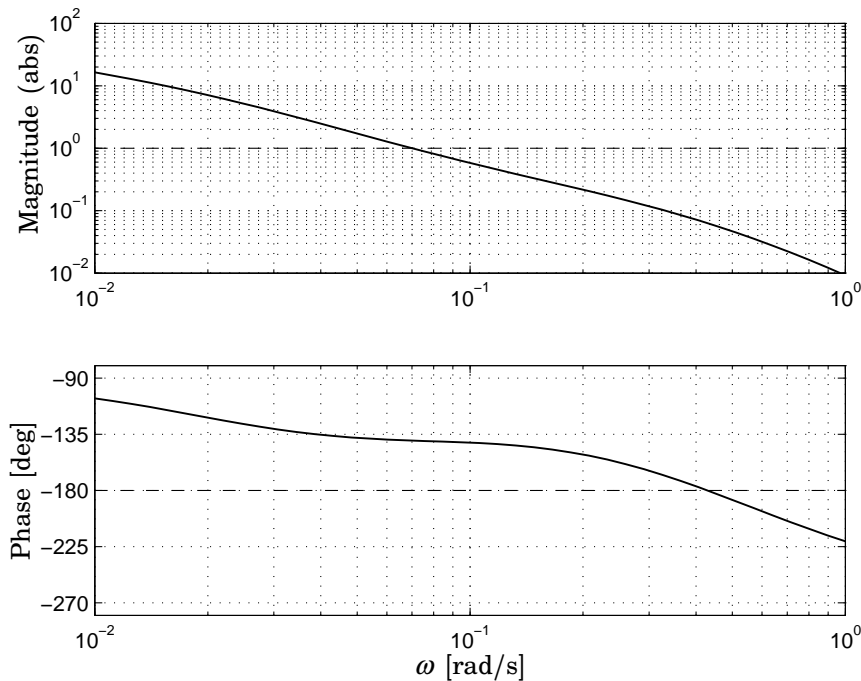

Figure 2 The loop transfer function Bode plot from Problem 3.
3. The Bode plot of a loop transfer function is shown in Figure 2. Determine the cross-over frequency ω_c , the -180° phase shift frequency ω_0 as well as the amplitude margin A_m and phase margin φ_m which a negative feedback connection of the system would result in. Do not forget to explain how you obtained the reported values. (2 p)